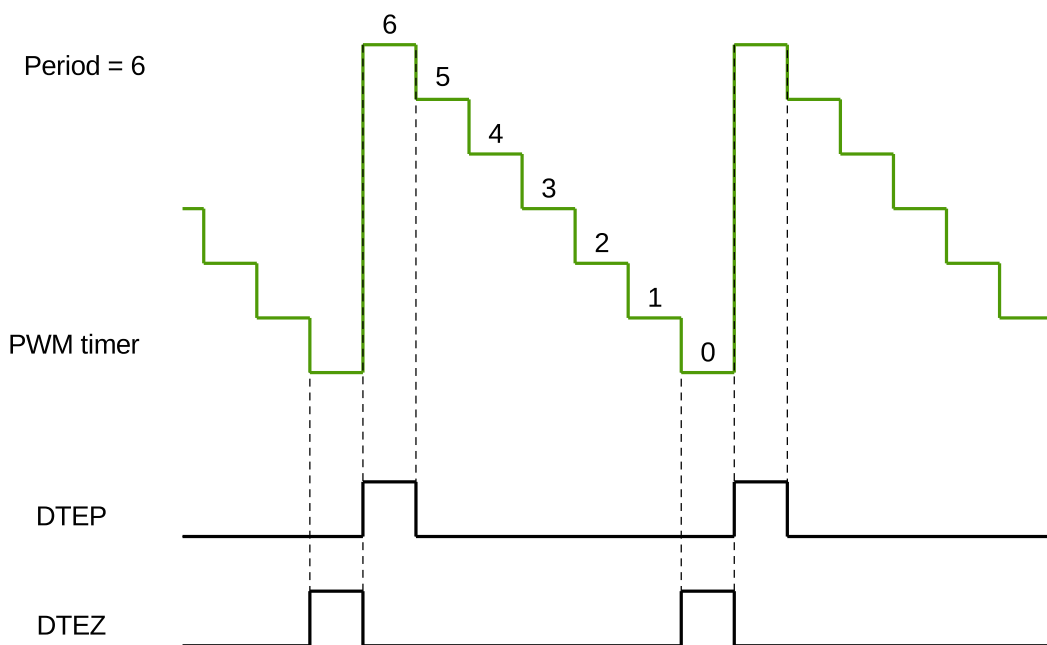

Figure 41.3-10. DTEP and DTEZ Generation in Count-Down Mode
2. DTEP and DTEZ do not happen simultaneously. When the PWM timer is in Count-Down Mode, DTEZ will always happen one cycle earlier than DTEP, as demonstrated in Figure 41.3-10, so their action on PWM